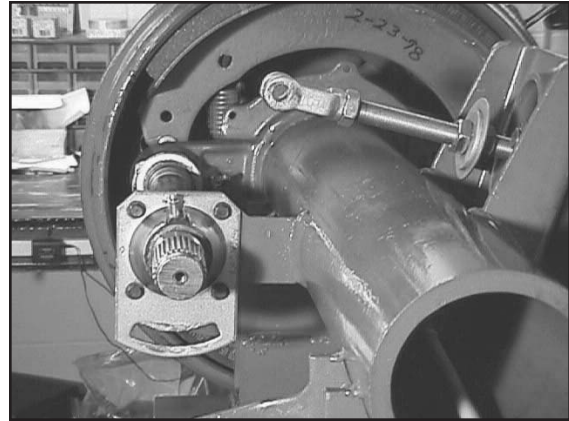

Figure 9
- Install anchor bracket loosely as illustrated (fig. 9).